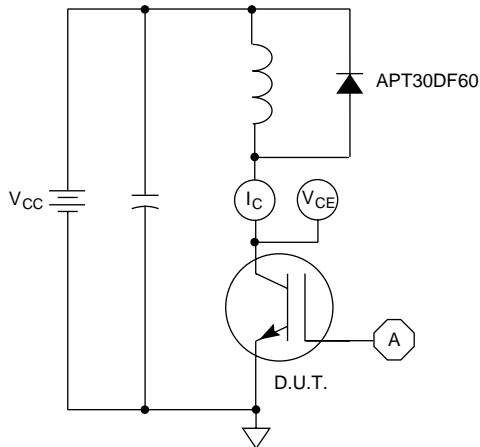

Figure 21, Inductive Switching Test Circuit
- ⑤ Eon2 is the clamped inductive turn-on energy that includes a commutating diode reverse recovery current in the IGBT turn-on switching loss. A Combi device is used for the clamping diode as shown in the Eon2 test circuit. (See Figures 21, 22.)
- ⑥ Eoff is the clamped inductive turn-off energy measured in accordance with JEDEC standard JESD24-1. (See Figures 21, 23.)
- ⑦ Continuous current limited by package lead temperature.